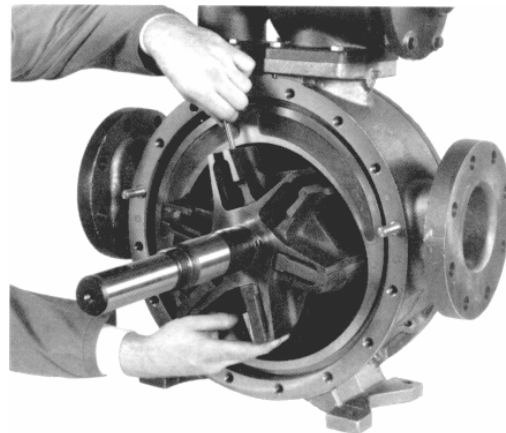

Figure 11
- b. Keep part of the rotor (13) outside the casing (12) such that the three bottom vanes (14)(rounded edge outward) can be inserted into the rotor slots and held in place while all three push rods (77) are inserted. See Figure 11.
- c. The rotor and shaft (13), with the three bottom vanes (14) installed, can now be **fully** inserted into the casing (12).
- d. Install the remaining vanes (14) in the top positions of the rotor.